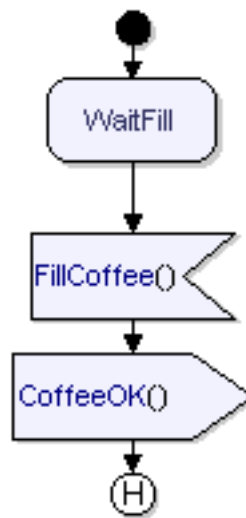

Figure 14: Composite state
3. Draw the sub-state definition as depicted in Figure 14 on page 28. The history state implies a return to the state WaitFill.